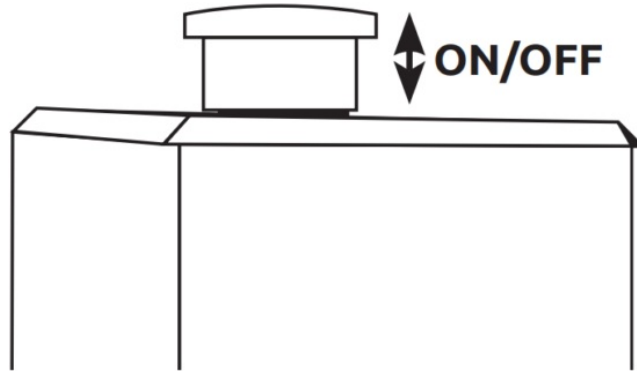

figure 2
- Open the outlet valve, set the knob of the pressure switch in position "ON" (Fig.2) and let the compressor run for 10 minutes with no load, in order to ensure the lubrication of the moving parts before regular service.